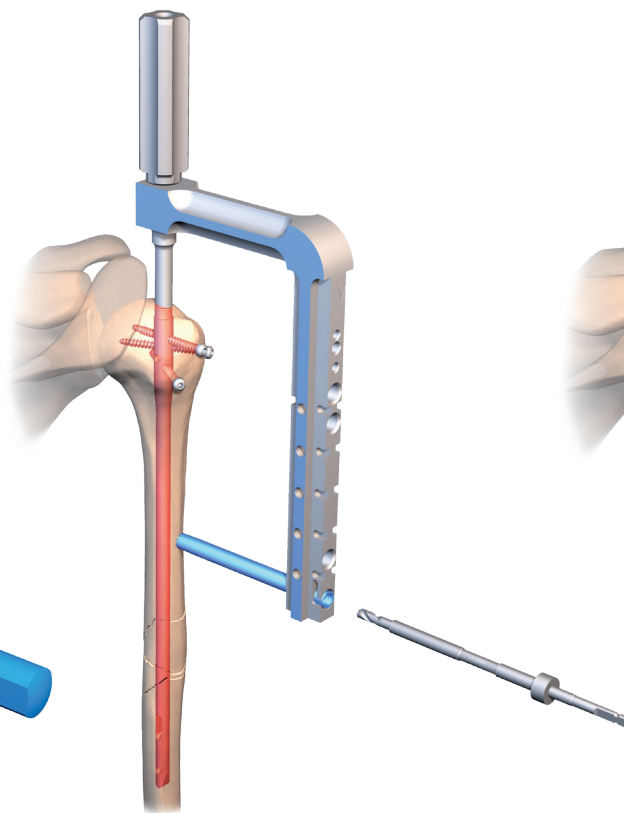

fig. 12
- Drill the outer cortex with the grey drill bit with stop (**ref. 266 428**) (**fig.12**).